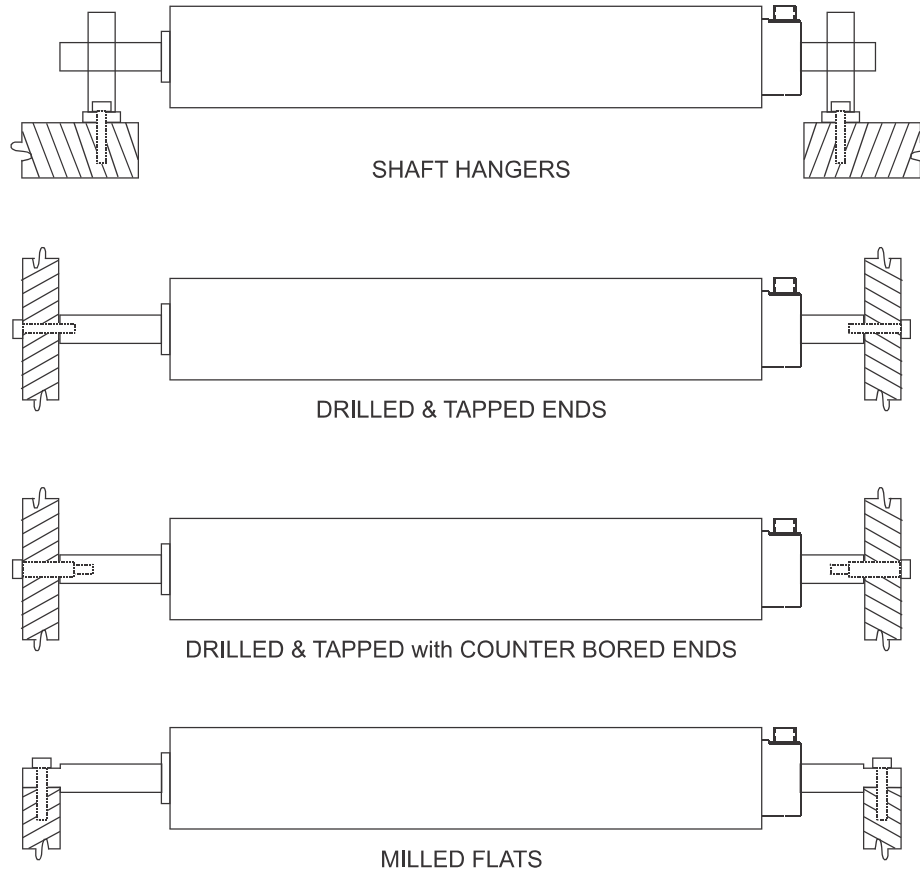

Figure 5 - MOUNTING STYLES
1. LOAD RATINGS. The Model "TR" Transducer is available in several standard load ratings, ranging from 12 lbs. to 400 lbs. The correct rating for any particular application depends on web tension, transducer roll weight, wrap angle and the direction of the tension force on the transducer roll. Figure 5 contains mathematical formulas which use these factors to determine the correct load rating.